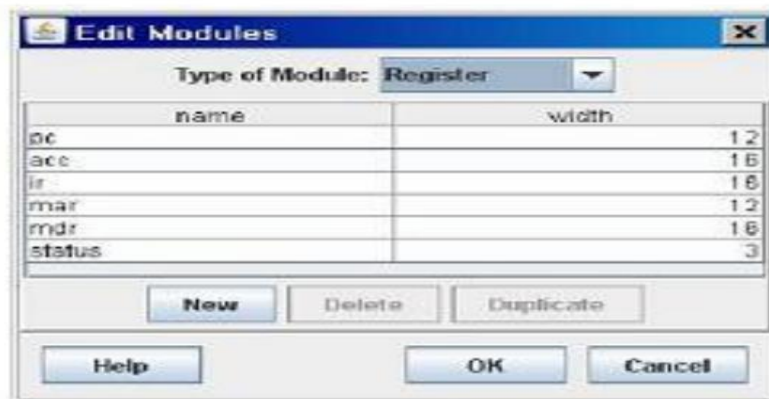

Figure 2: The dialog for editing the hardware modules.
3. Select "Register" as the type of module and then click the "New" button six times. Edit the name and width of each of the six registers so that they match the specifications of the machine given in the previous section (see Figure 2).